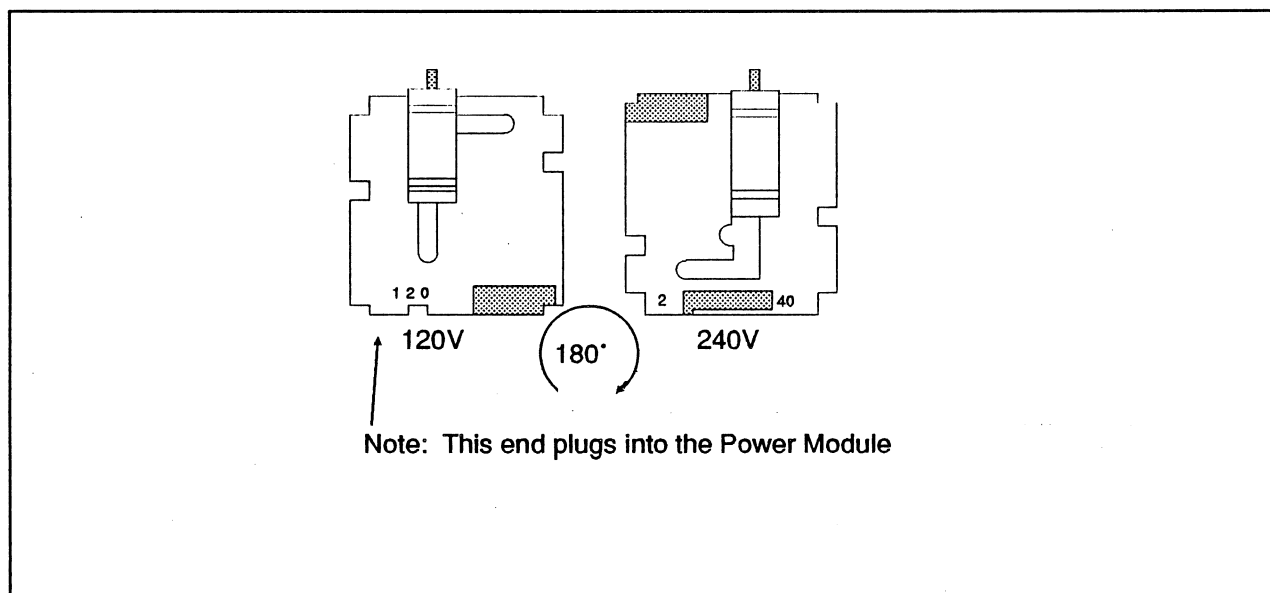

Figure 2-11. Voltage Selector Card
- 3 Remove the voltage selector card from the power module and rotate the voltage selector pin 180 degrees, as shown in Figure 2-11.